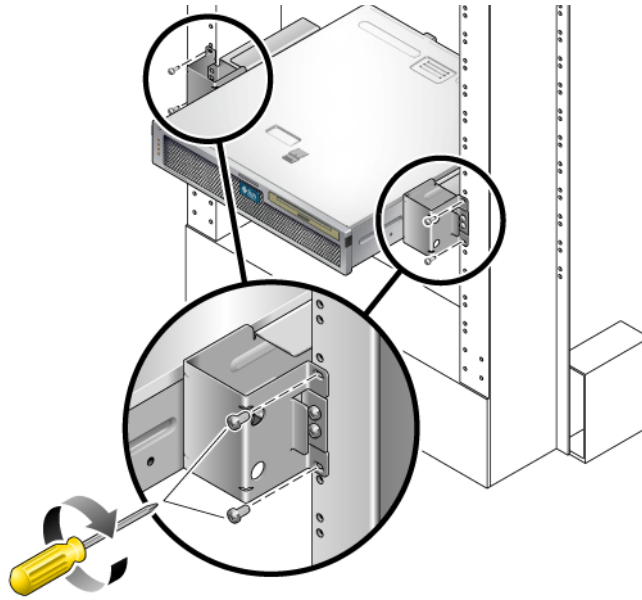

FIGURE 4-4 Installing and Securing the Server in the 2-Post Rack
5. Lift the server into the rack and slide the server onto the rail guides (FIGURE 4-4).
6. Using two screws on each side, secure each side bracket on the server to the front of the rack (FIGURE 4-4).